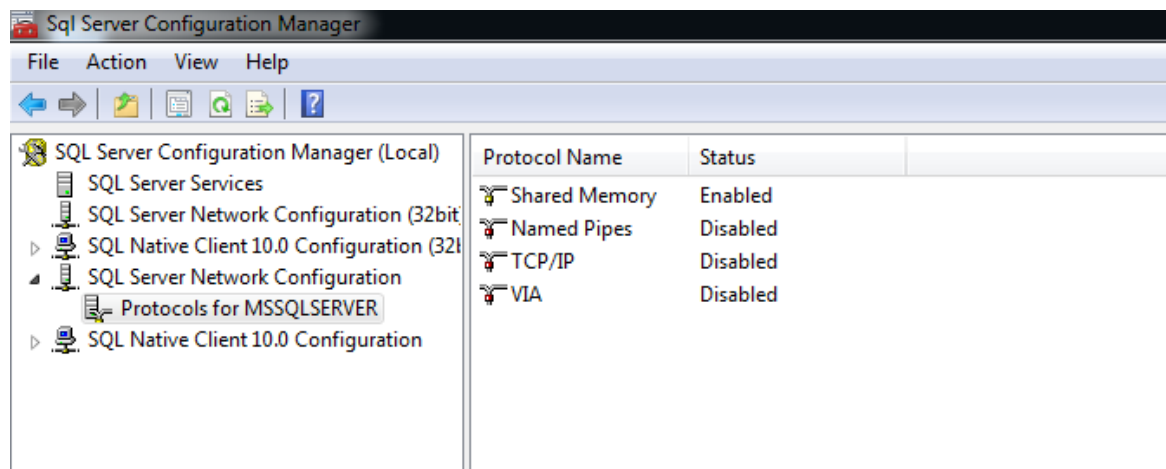
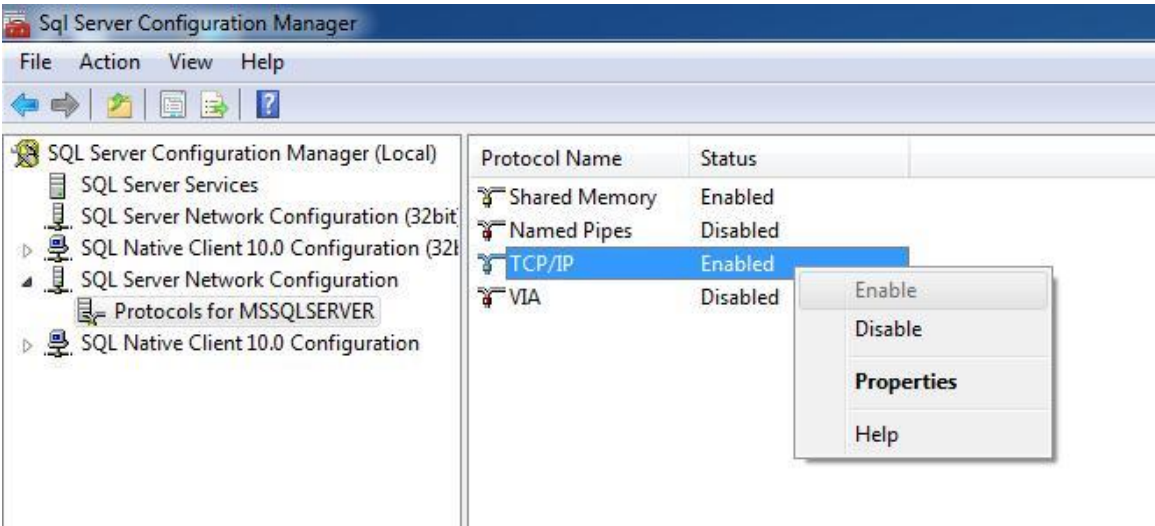

Fig.1.11 Sql Server Configuration Manager
Fig.1.12 Sql Server Configuration Manager
**Step Ten:** Choose “Protocols for MSSQLSERVER” under the node of SQL Server Network Configuration on the left. The default status of TCP/IP is Disabled (see Fig.1.11). Please set status of TCP/IP as “Enable” by right click (see Fig1.12) or opening TCP/IP Properties interface by double click, then modify “active” to “yes”, click “OK” button.